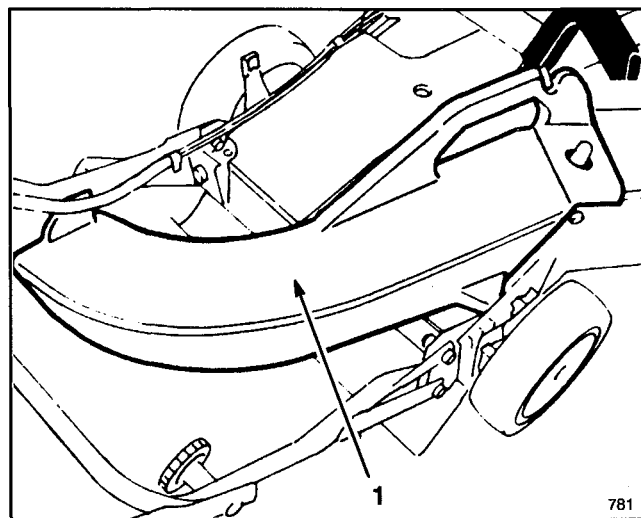

Figure 37
1. **Side Discharge Kit, Model No. 59113**—Installs in seconds. Rear mounted in place of the grass bag or discharge tunnel plug. Disperses clippings while trimming on both sides (Fig. 37).